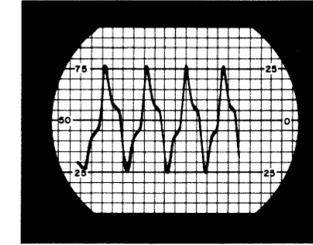

Figure 2.
- Adjust the 1000 cps input signal to 1.5 volt. This should drive the IDC circuit into full clip. See Figure 2.
- With this input signal level adjust the IDC control on the transmitter to provide a peak-to-peak recovered signal on the oscilloscope of 10 squares, which is equivalent to  $\pm 5$  kc deviation as shown in figure 2. A wide-band system should be adjusted for 30 squares ( $\pm 15$  kc). If the waveform under the above conditions does not resemble the waveform shown in figure 2 adjust L101 until a symmetrical waveform is obtained. Re-adjust the IDC control.
- Adjust the 1000 cps input signal to 1.5 volts. This should drive the IDC circuit into full clip. See Figure 2.
- With this input signal level adjust the IDC control on the transmitter to provide a peak-to-peak recovered signal on the oscilloscope of 10 squares, which is equivalent to  $\pm 5$  kc deviation as shown in figure 2. If the waveform under the above conditions does not resemble the waveform shown in figure 2, adjust L101 until a symmetrical waveform is obtained. Re-adjust the IDC control.